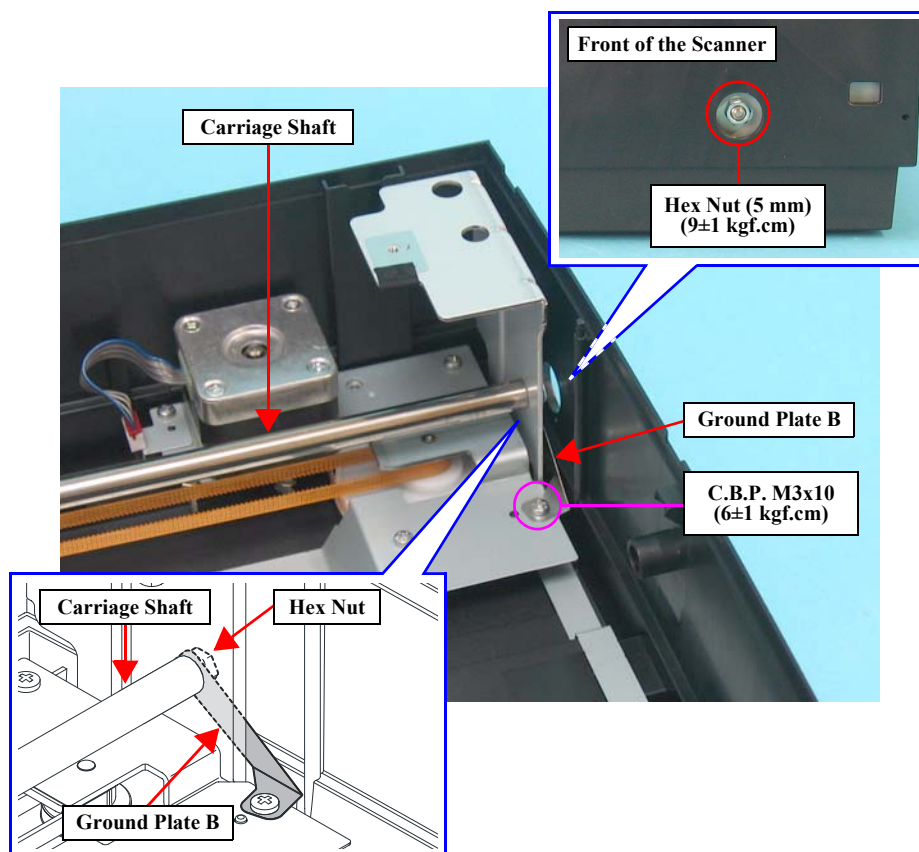

Figure 4-23. Removing the Carriage Shaft (1)
- Install the Ground Plate B as shown in Figure 4-23 on page 48.